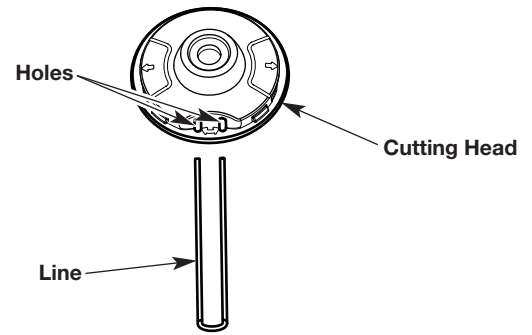
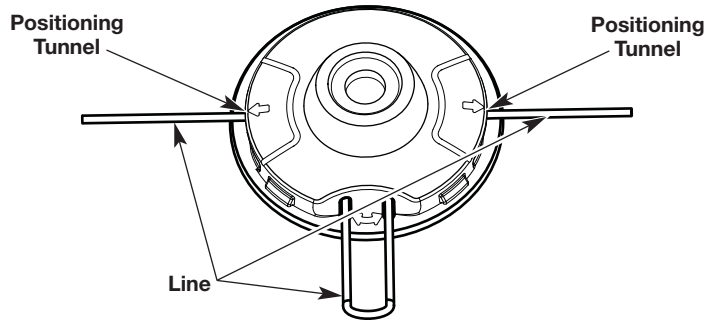

Fig. 11
Fig. 12
3. Insert the ends of the line through the circular holes in the side of the cutting head (Fig. 11). Push the line through the holes until both ends protrude from the positioning tunnels (Fig. 12).